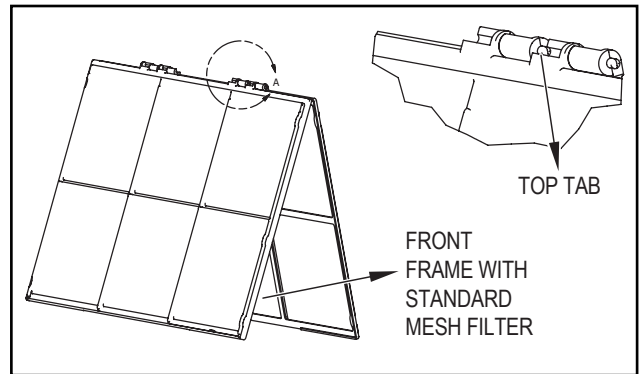

Figure C.7.4
STEP 3. If you already have a carbon filter installed remove the dirty filter by laying the filter down and swinging open the front frame as shown in Figure C.7.4. Clean the front frame by washing the dirt from the filter. Use a mild soap solution if necessary. Allow filter to dry.